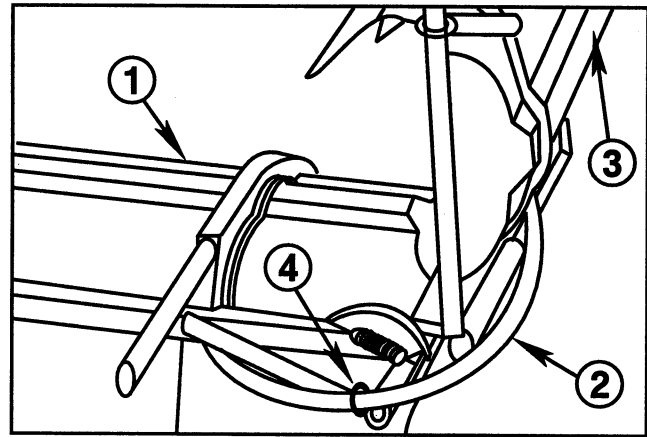
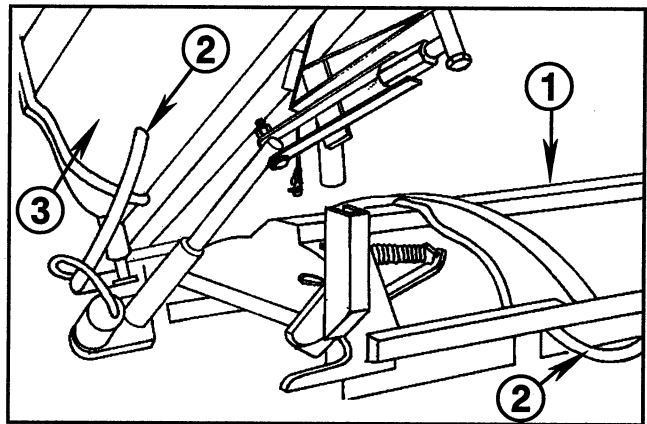

FIG. 6
FIG. 7
2. Route Right and Left Boom Feed Hoses as shown in FIG. 6 through ring at wing pivot joint and through Boom Center Section (FIG. 7) ensuring that there is adequate hose length at the Boom Extension Pivot Joint so that the hose is not stretched.